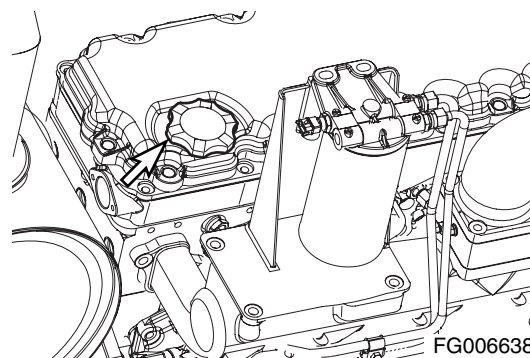

Figure 56
4. Refill the engine with the correct oil through the oil fill port (Figure 56). Refer to the Lubrication Table of this manual for the recommended oil for the operating conditions.